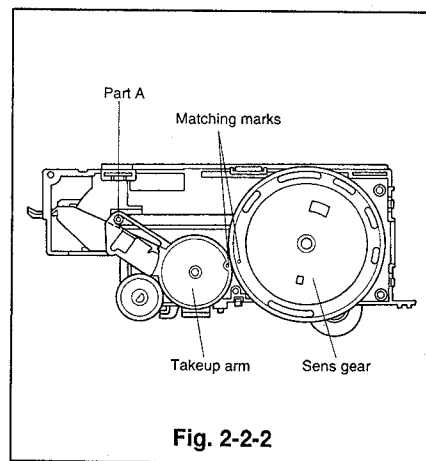

Fig. 2-2-2
- ⑧ Shift the bottom plate back to the eject position and install the sens gear so that the matching marks of the sens gear and the takeup arm align as shown in Fig. 2-2-2.
- ⑨ Install the side plate.
- ⑩ Install the cassette housing.